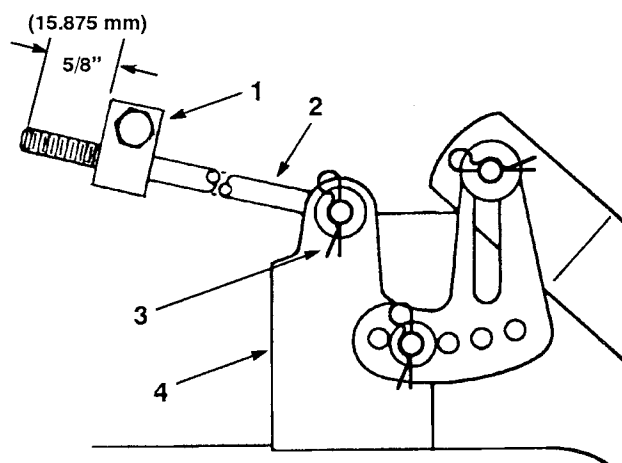

Figure 49
6. Measure the length of the rod extending out the front of the adjusting block on the sides of the chassis (Fig. 49). If the rod length is not 5/8" (15.875 mm), remove the hair pin cotter and washer from the end of the rod (Fig. 49), and turn the rod until the 5/8" (15.875 mm) dimension is obtained. Then install the end of the rod into the hole in the mower mount and secure in place with washer and hair pin cotter. Repeat this procedure on the opposite side of the mower.